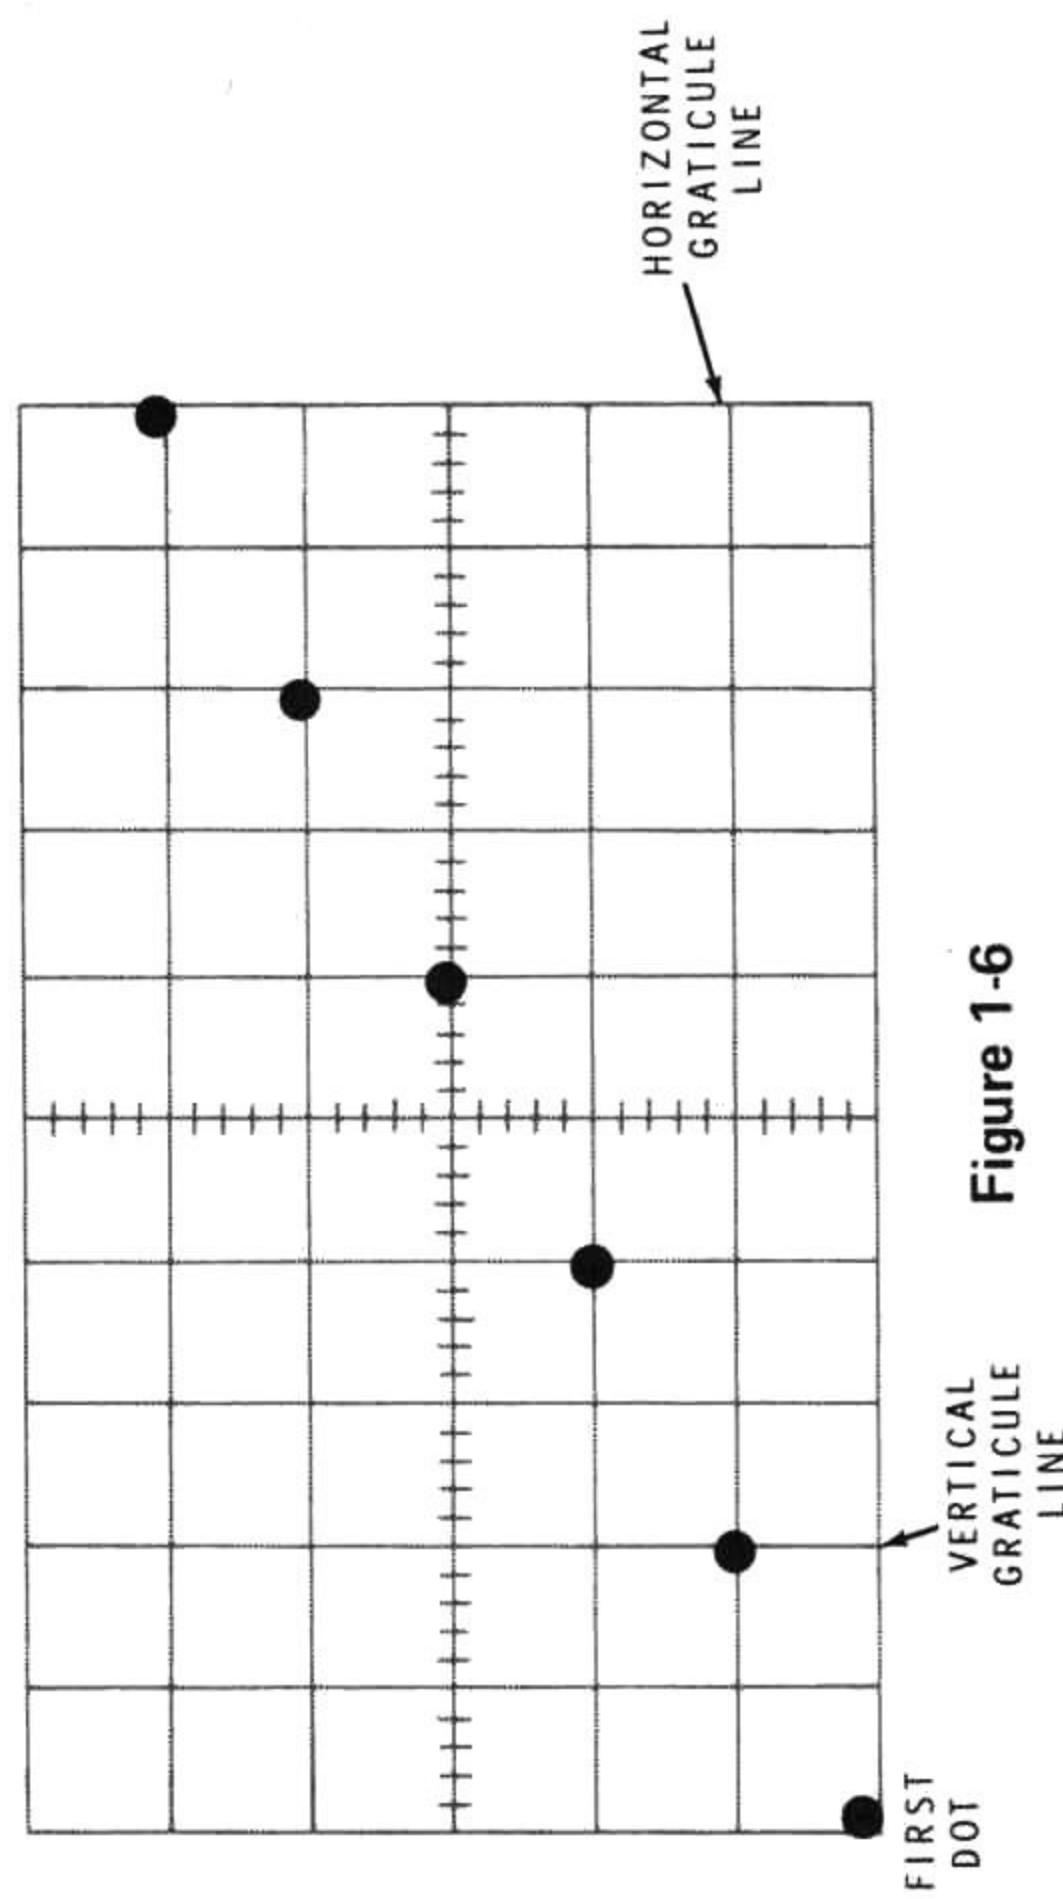

Figure 1-6
- () Turn on the Curve Tracer (until the SWEEP VOLTAGE control just clicks) and slowly turns the STEPS/FAMILY control clockwise until four to six dots appear in a diagonal row and fill the oscilloscope screen, as shown. See Figure 1-6.